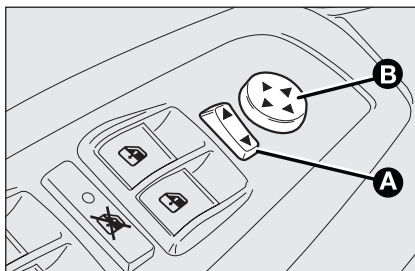

fig. 35
- ☐ use switch **A**-fig. 35 to select the mirror required (left or right);